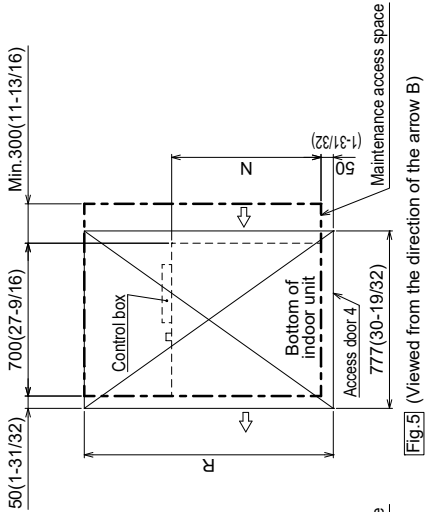

Fig.2 (Viewed from the direction of the arrow B)
- Create access door 1 and 2 (450×450mm(17-23/32×17-23/32) each) as shown in Fig.2.
- (2) When a space of less than 300mm(11-13/16) is available below the unit between the unit and the ceiling.